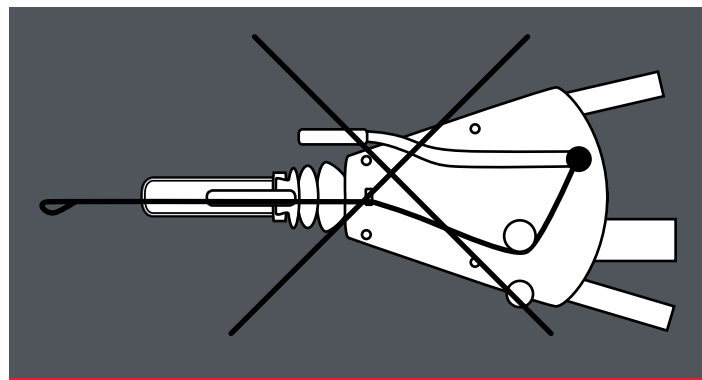

Fig 40 DO NOT wrap breakaway cable around jockey wheel
2. The breakaway cable **MUST NOT** be wrapped around the jockey wheel, as this disables the emergency brake (Fig 40).